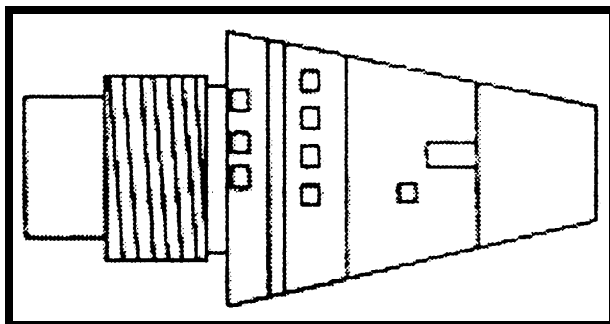
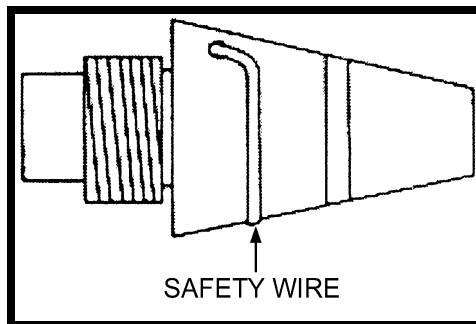

Figure 7-15. M776 MTSQ fuze.
Figure 7-16. M935 PD fuze.
- a. **M776 MTSQ Fuze** (Figure 7-15).
- (1) Functions: Air burst or impact.
- (2) Settings: Six to 52 seconds.
- (3) Remarks: The fuze has a mechanical arming and timing device, expulsion charge, and safety wire or pin.
- b. **M935 PD Fuze** (Figure 7-16).
- (1) Functions: Impact.
- (2) Settings: Superquick or 0.05-second delay action.
- (3) Remarks: The fuze has a safety wire.